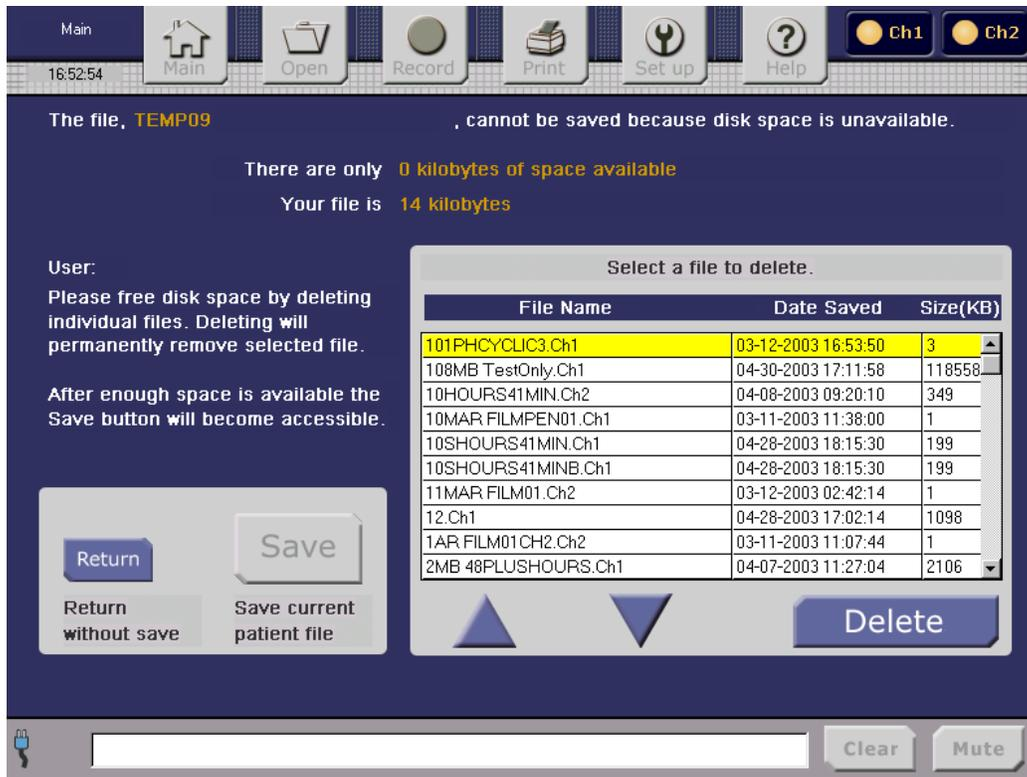

Figure 36. Free Disk Space for File Save Screen
There are 200 Megabytes (MB) of disk storage for data log files. This is equivalent to three months of continuous recording of data for two channels. If the operator tries to save a logged file that would exceed the 200 MB limit, the console will display the **Free Disk Space for File Save** screen (shown in Figure 36).